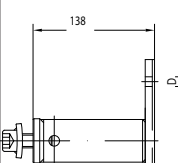

Fig. 13
b) Mounting clamps with guide (Fig. 13)